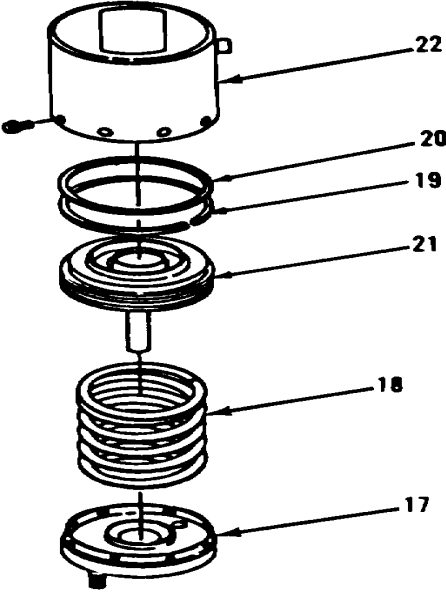

Figure 6-6.
- 8. Remove cover (17) and spring (18) from housing (22, Figure 6-6).
- 9. Remove and discard preformed packing (19) and seal (20) from piston (21). Remove all seal material from piston (21).
4. Install new seal (20) and new preformed packing (19) on piston (21).
5. Install items 21 thru 19 as an assembly (22, Figure 6-6).
6. Install spring (18) and cover (17) in housing (22).